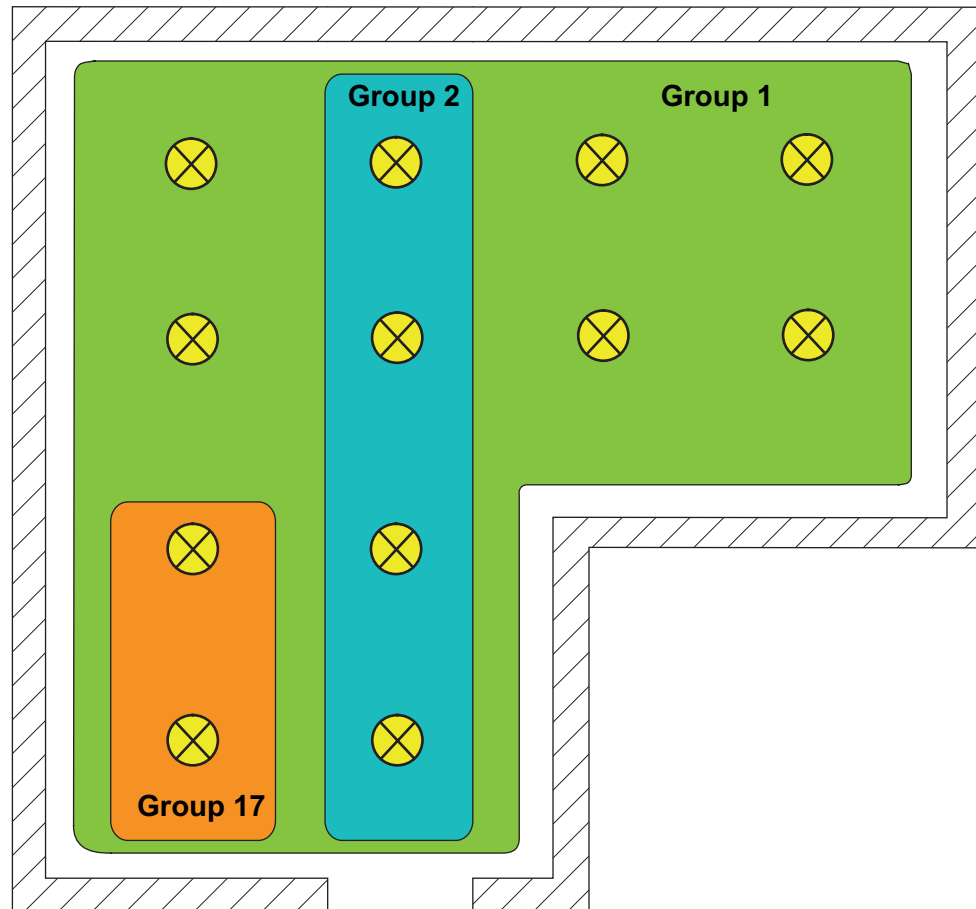

Figure 15: Example of multiple assignment of operating devices -
- i** DALI operating devices assigned to multiple groups always set themselves to the most recent status set using one of the assigned groups. In this case, feedback of the switching status, brightness value or colour temperature of a group cannot always be clear. The following examples explain this behaviour (figure 15):